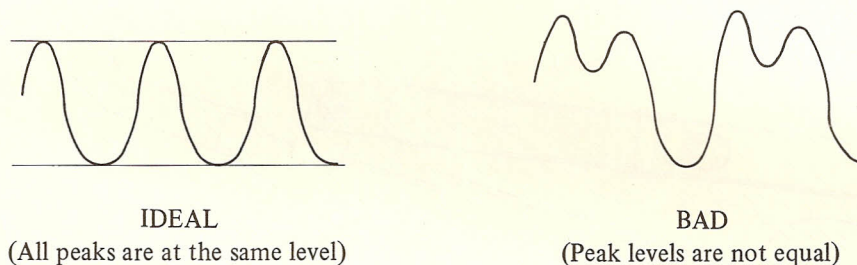

Fig. 17
- Adjust VR1 until the oscilloscope shows a waveform or as Fig. 17.